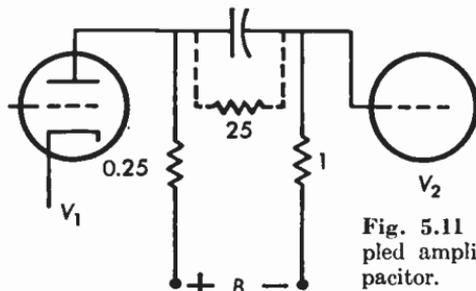

Fig. 5.11 Resistance-capacitance coupled amplifier with leaky coupling capacitor.
5.11 While looking for the reason for distortion in a radio receiver it is found that the audio-frequency stage has a leaky coupling capacitor with a leakage resistance of 25 megohms. The plate resistor is 0.25 megohm, and the grid-leak resistor is 1 megohm. What is the value of the positive voltage on the grid of the tube V_2 in Figure 5.11 caused by this leakage, if the plate supply is 125 volts?